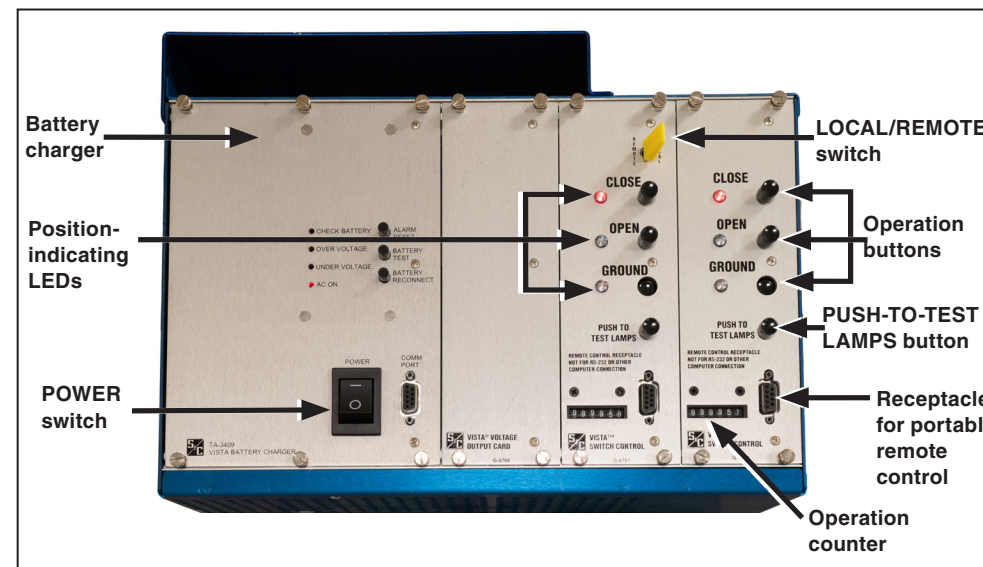

Figure 2. The motor operator control rack.
a receptacle for the portable remote control. See Figure 2.
STEP 2. Turn the LOCAL/REMOTE switch to the **Local** position. See Figure 2.
ensure all LEDs are working. See Figure 2.
STEP 8. The LOCAL/REMOTE switch should already be in the **Local** position. If the switchgear is energized and feeding load, decouple the operator before continuing. The following actions may be performed using buttons, as shown in Figure 2: